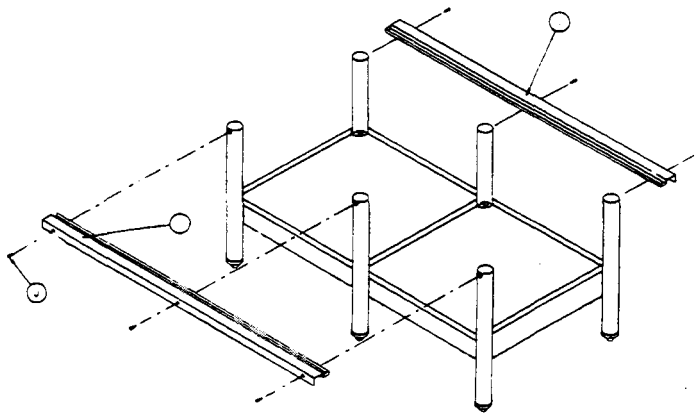

Figure 8
- 8. Position top front and rear support item "I" over leg assemblies as shown in Figure 8. Secure into leg assemblies with V* - 20 x 1/2" hex head bolts item "J."